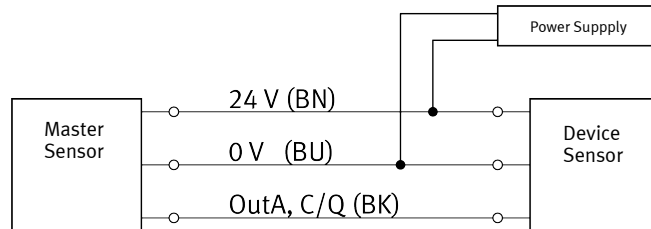

Fig. 13: Replicate pin allocation parameters
- The master sensor is connected with the device sensor → Fig. 13.